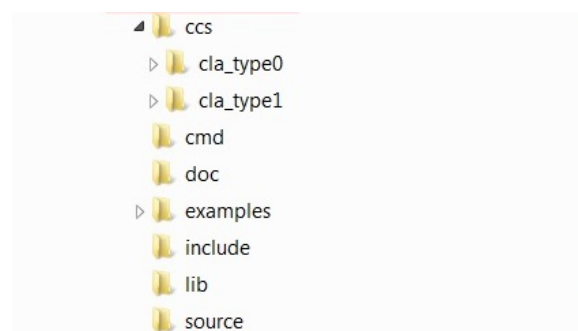

Figure 3.1: Directory Structure of the CLAMath Library
*VERSION* indicates the current revision of the CLAMath library. Figure. 3.1 shows the directory structure while the subsequent table 3.1 provides a description for each folder.